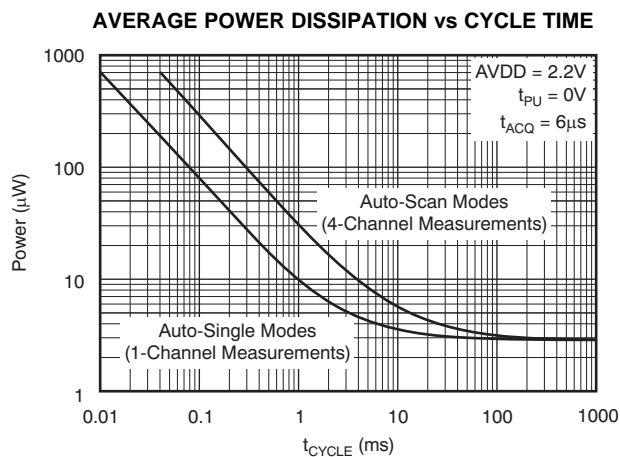
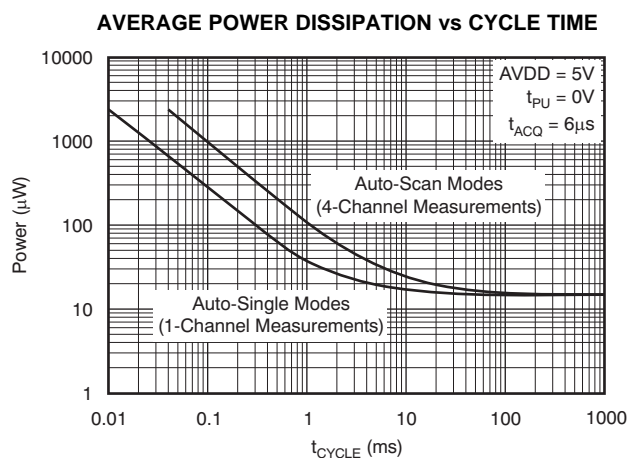

Figure 3.
Figure 4.
(2) Rate at which channels can be scanned. This is the minimum acquisition time (6 μs) and conversion time (4 μs).
(3) DVDD cannot exceed AVDD.
(4) See Figure 3 and Figure 4 for more information.